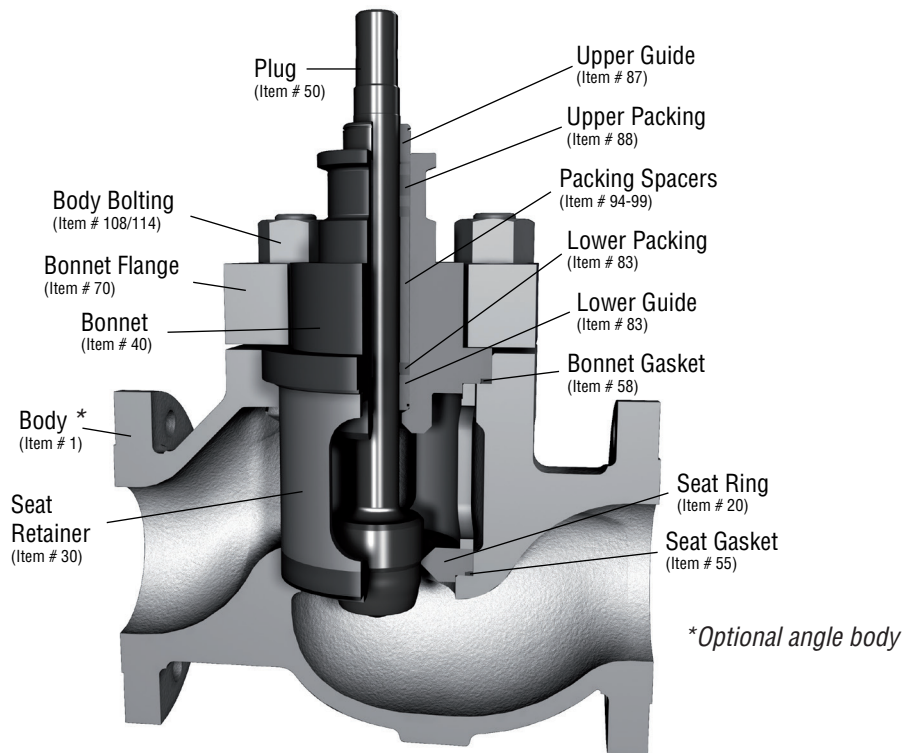

Figure 1: Mark One Control Valve Body Assembly
- 6.1 To disassemble the valve body, refer to Figures 1, 2 and 3 then proceed as follows: